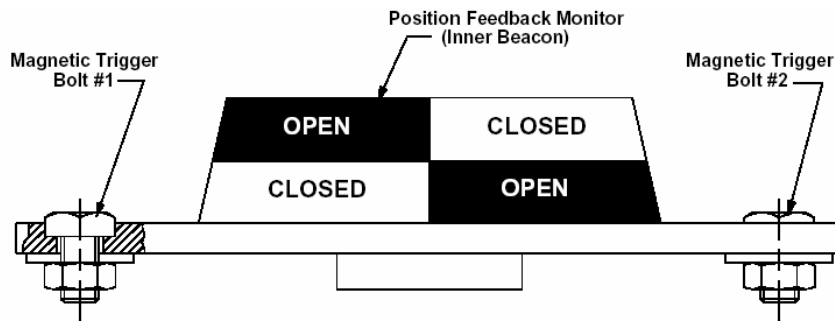

Figure 17
- Loosen magnetic trigger bolt #1 per Figure 17.